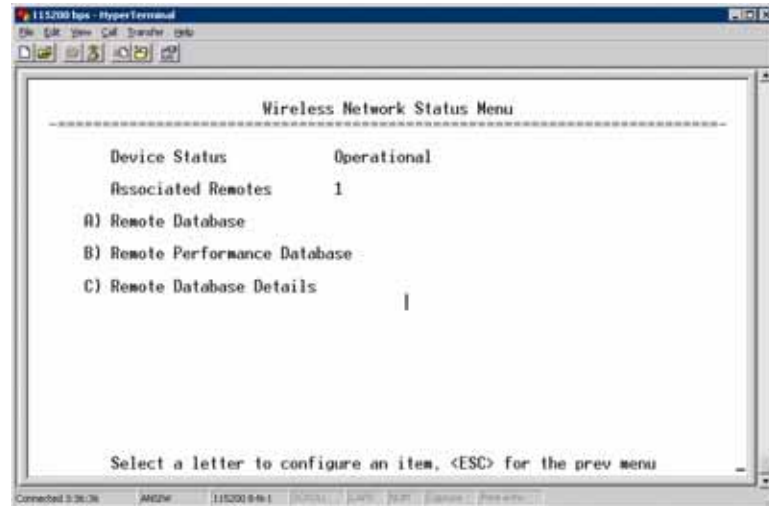

Figure 3-89. Wireless Network Status Menu (AP)
- **Wireless Network Status**—Current AP association state and MAC address. (See Figure 3-89 on Page 117 for details.)